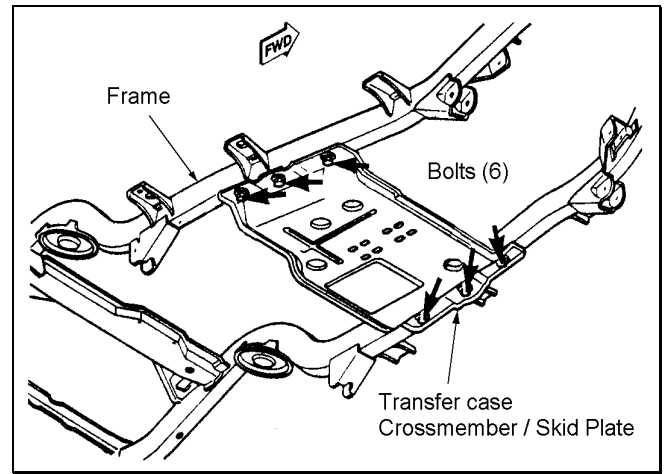

Figure 17
- 1) ☐ Place the transmission in neutral. Support the transfer case crossmember/skid plate with a hydraulic jack. Loosen the 6 bolts holding the crossmember to the frame. See figure 17. Do not use an impact gun.